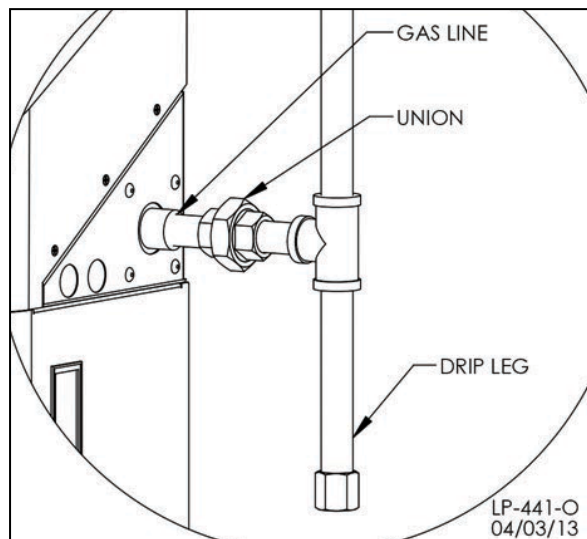

Figure 20 - Gas Connection
5. The National Fuel Gas Code (NFPA 54) requires that a sediment trap (drip leg) be installed in the gas line on appliances not so equipped. The drip leg must be accessible, a minimum of 3" in length, and not subject to freezing conditions. See Figure 20.